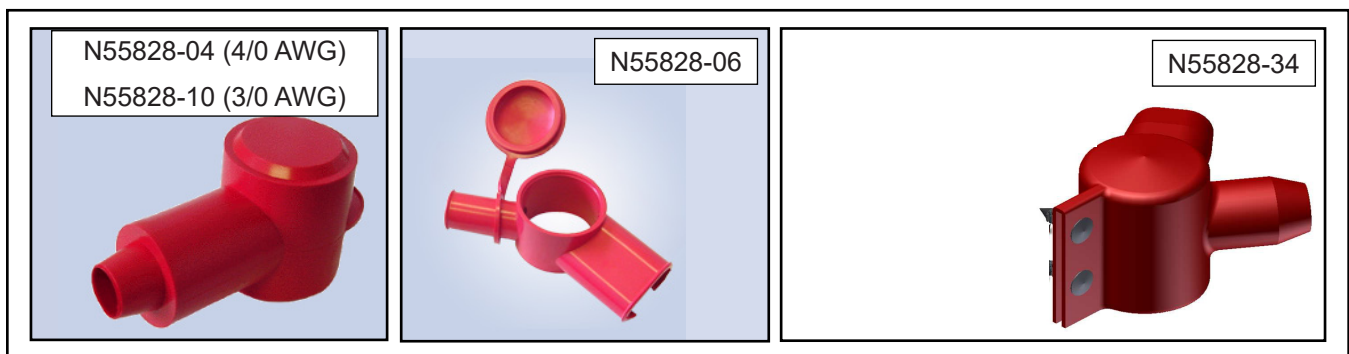

Figure 16 - Typical View of Different Protective Boots
- 2.20. Application procedure for DOLPH ER-41 and EB-41 (N86800 & N86801 respectively) corrosion preventative products (see Figure 16).